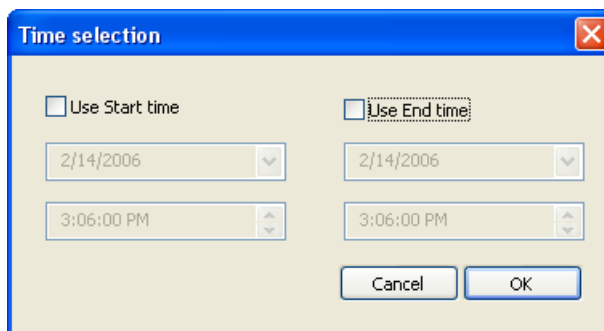

Figure 283. Time Selection in Archive Tool
**Action / Insert Data into logs** is used to insert the data into the log. The data will be merged into the existing logs. When inserting data into logs the start and end time for the data to insert can be chosen in the Time selection dialog. If no checkbox is checked, all data will be inserted. See Figure 283.